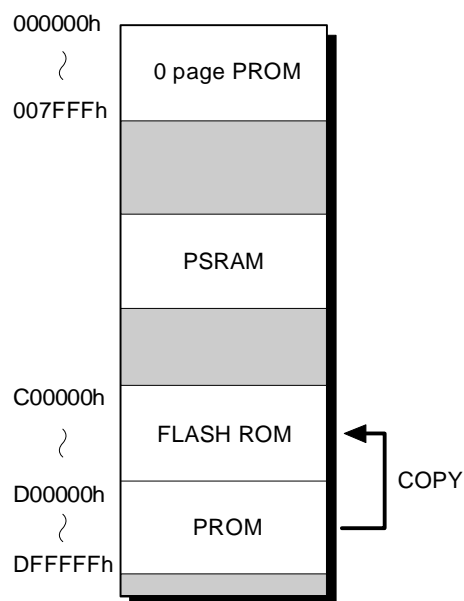

Fig. 18
2. When leaving the factory (Fig. 18)